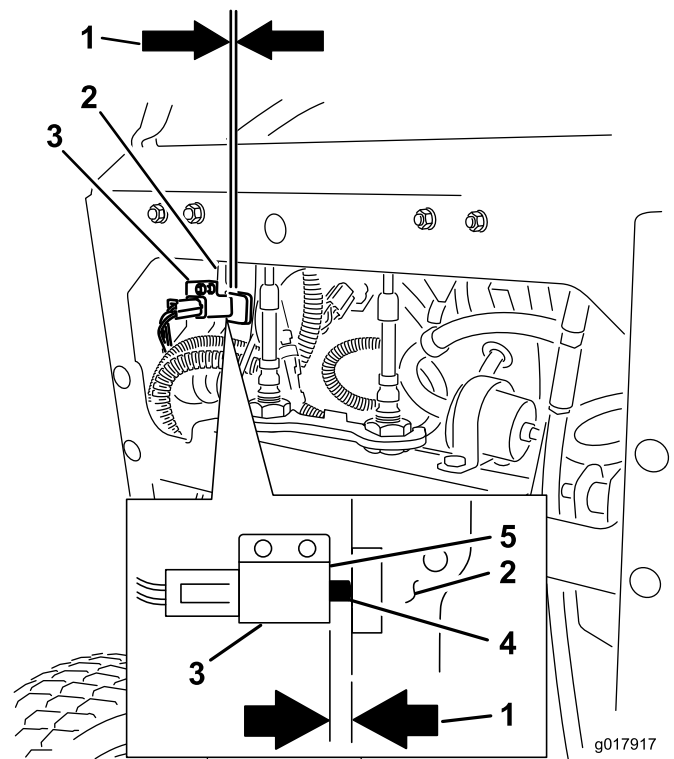

Figure 67
11. After the brake is adjusted, check the lever switch (Figure 67).
12. Check the gap between the brake lever and the face of the switch as shown in Figure 67.